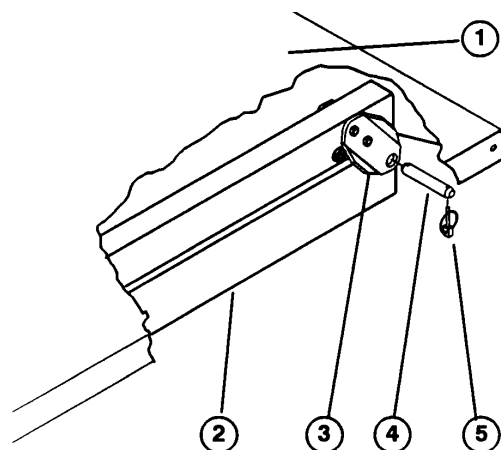

Figure 8
3. Carefully set the bed onto the vehicle frame, aligning the rear bed pivot plate holes with the holes in the rear frame channel (Fig. 8).
4. Secure each set of pivot plates to the frame channels with a clevis pin and (2) lynch pins (Fig. 8). Tighten the pivot plate mounting capscrews if they were previously loosened.